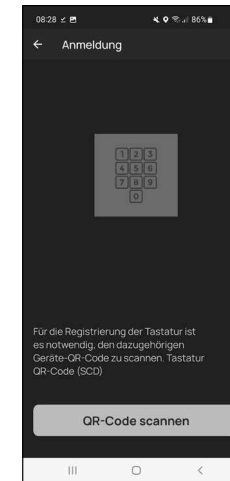

Fig. 7
- 9 A prompt will appear asking you to scan the QR code for the keypad provided using your smartphone camera. The QR code is on the QR code sticker enclosed in the packaging (Fig. 7).
- 10 Tap on "Scan QR code" (Fig. 7). You may be asked to confirm the app's access to the camera.